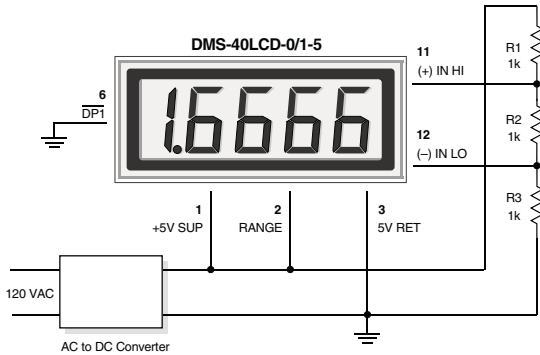

Figure 3. Differential Input Configuration (5V-Powered Models)
2. Differential Input Configurations: Differential measurements can be made with either 5V-powered or 9V-powered meters. Figure 3, though not a practical real-world application, uses a voltage divider to demonstrate the concept of a differential input signal. Be careful not to exceed the ±2V common mode voltage limitation for 5V-powered meters.